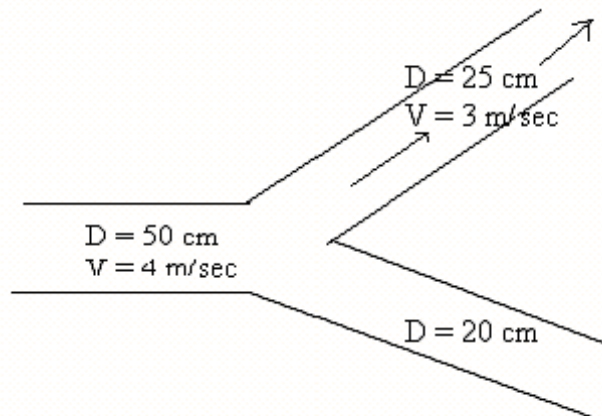

Figure 4
- (b) A pipe 50 cm in diameter branches into two pipes of diameters 25 cm and 20 cm respectively as shown in figure 4. If the average velocity in 50 cm diameter pipe is 4 m/sec find